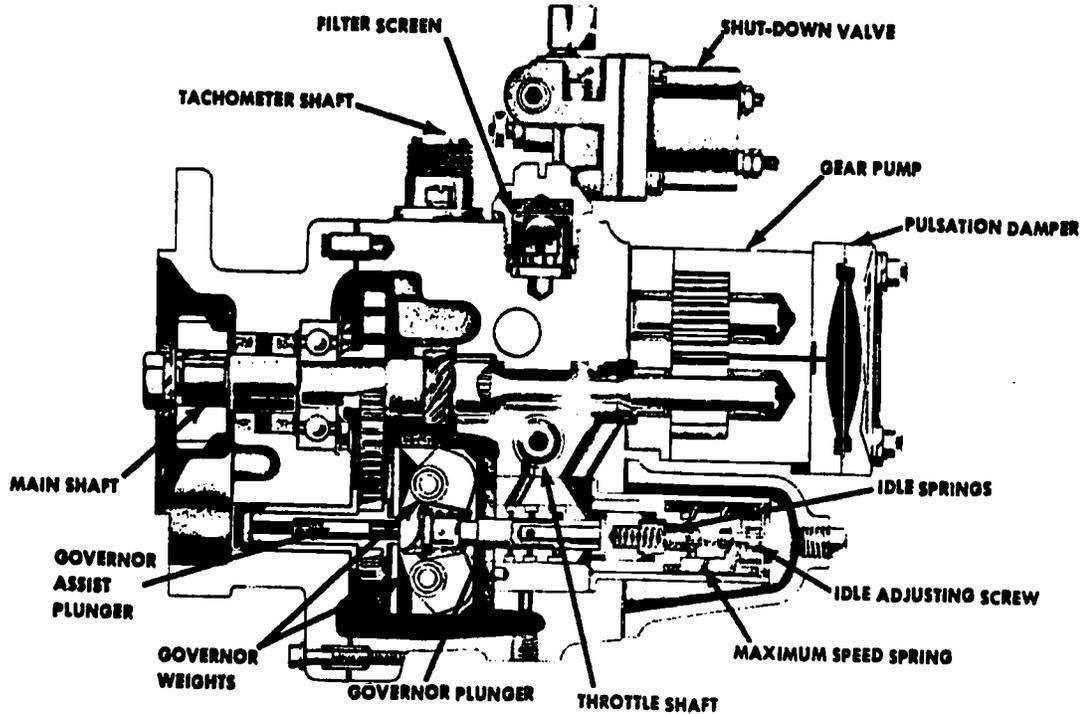
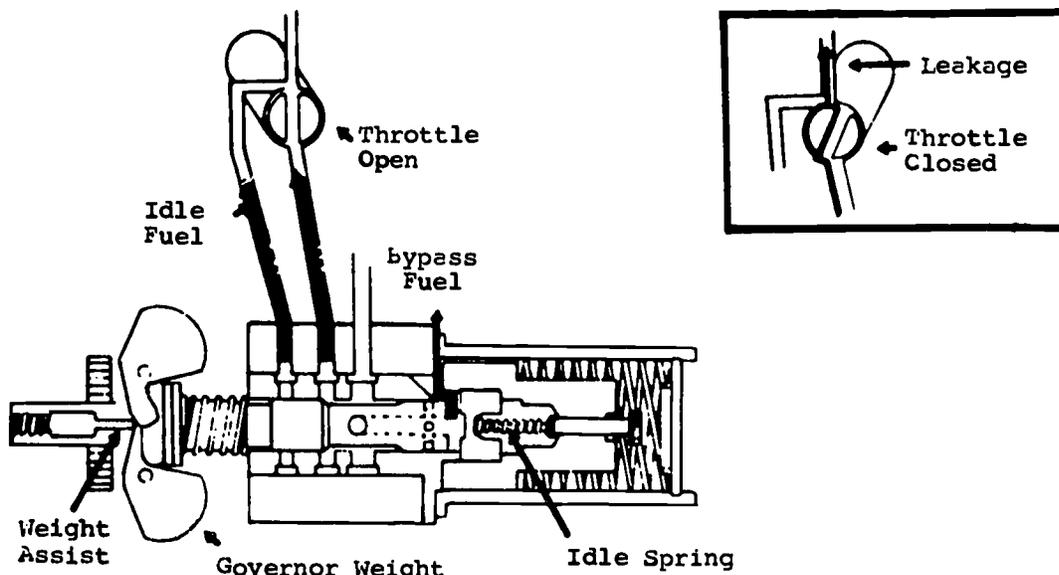

Fig 3-6. PTG fuel pump (cross section).
Fig 3-7. Governor (showing fuel flow).
The M809 and M939 series vehicles use the Cummins NHC 250 engine. The naturally aspirated, six-cylinder, inline, liquid cooled engine utilizes the somewhat unique Cummins pressure time (PT) fuel system. This system is composed of a PTG-AFC (plugged) fuel pump (fig 3-6) mounted on the air compressor, fuel manifold, PT (type O) injector, and fuel return lines. Of course a fuel tank, supply lines, and filter are common to all internal combustion engines. The pressure time (PT) fuel system is derived by the fact that fuel metered into the cylinder depends on two things, the fuel pressure at the metering orifice (controlled by the fuel pump) and the time the orifice is open to receive fuel (controlled by the cam actuated injector plunger). The air fuel control (AFC) device incorporated in the pump is plugged when used on naturally aspirated engines such as the NHC 250.
Take a look at figure 3-7. Fuel enters the gear pump, moves through a screen to the governor, then through the throttle shaft, and lastly, through the shut-down valve to the injectors. Pulsations created by the gear pump are eliminated by a pulsation damper (refer to fig 3-6).
As noted previously, the PTG pump is a variable pressure pump. In this type pump, the fuel flow is controlled by the governor (fig 3-7) at idle and maximum speeds. If the operating speed is somewhere between low idle and high idle, fuel flow is regulated by the throttle which is controlled by the operator. At low idle, the governor maintains sufficient fuel pressure (flow) by the use of a plunger and spring which allow the idle port to open, allowing enough fuel to maintain engine idle speed. At maximum speed (RPM) the governor plunger shuts off fuel (limits fuel pressure) to the injectors thus limiting speed. A bypass port is incorporated in the governor housing which allows fuel to circulate through the pump for lubrication and cooling of the working parts.
You should note in figure 3-7 that the throttle shaft leakage allows fuel to pass from the governor around the throttle shaft to maintain low idle speed. For part load operation (between low idle and high idle) fuel flow is regulated by the throttle shaft. Thus the throttle controls fuel flow (pressure) between idle and maximum speeds.